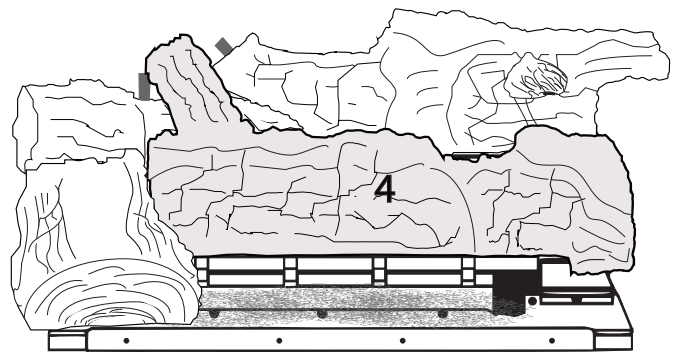

Figure 23 - Log #4 Placement
5. Place Log #4 in the center of the burner with the two pin locator holes lining up with the two log pins on the burner assembly. Make sure Log #4 is sitting all the way down on the burner. See Figure 23.